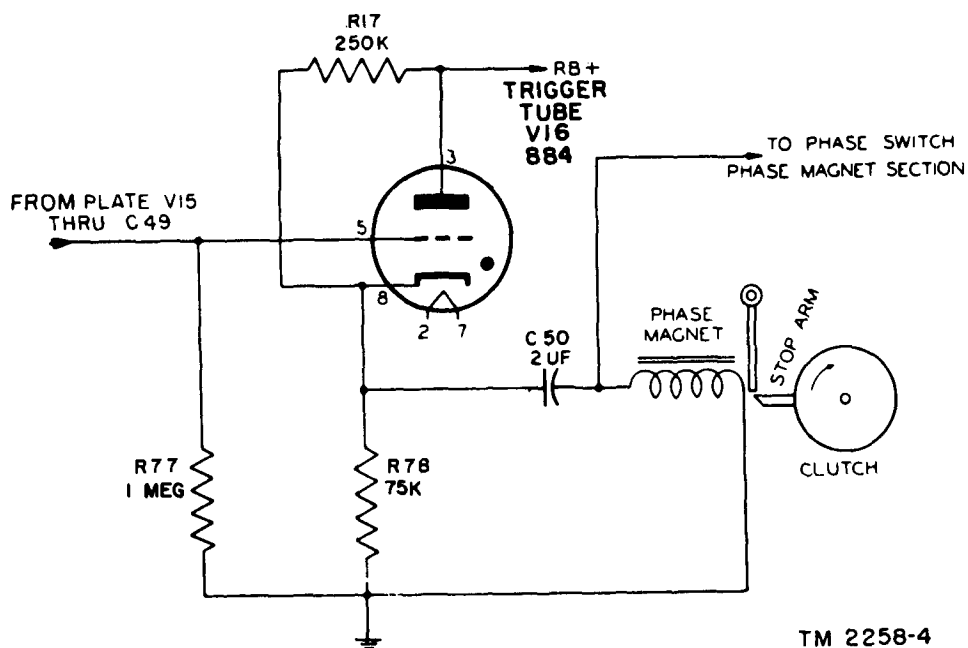

Figure 60. Trigger tube.
d. Trigger Tube (V16) (fig. 60). The trigger tube is a gas-filled thyratron, type 884 connected so that each phasing pulse applied to its grid causes the tube to arc and energize the phasing magnet. When the PHASE switch on the transceiver is operated, the normal holding current from the cathode circuit of tube V14 is removed, permitting the magnet armature to engage the stop arm on the primary clutch. Tube V16 has a positive potential of 250 volts applied directly to its plate from the regulated +250-volt supply. In the absence of a phasing pulse, the cathode is approximately 57 volts positive with respect to ground, being tapped onto the voltage divider composed of R17 and R78 across the regulated +250-volt supply. Since the tube grid is at ground potential, there being no voltage drop across grid resistor R77, the grid is effectively negative with respect to the positive cathode, and the tube is nonconductive. Capacitor C50 is charged 57 volts positive because, in series with the phasing magnet coil, it is across cathode resistor R78. When a phasing pulse on the grid of V16 causes the tube to arc, the voltage drop across the tube and across R17 is suddenly reduced to 16 volts, the characteristic voltage drop across this tube when it arcs; then the cathode potential suddenly becomes 234 volts, increasing approximately 177 volts in a positive direction. This sudden change in potential across C50 causes sufficient electron flow through the phasing magnet to attract the armature and release the stop arm on the clutch; but as soon as the charge on capacitor C50 is equalized by the current flow through the phasing magnet, the impedance of the cathode circuit again becomes very high (with R78 serving as a current-limiting resistor) and the tube arc is extinguished. The negative grid of the tube then resumes control, keeping the tube nonconductive and the phasing